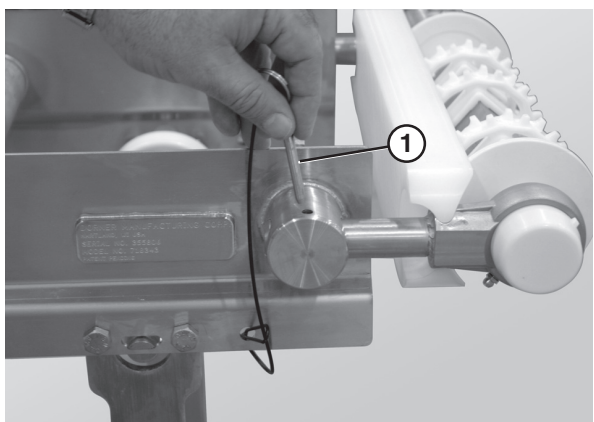

Figure 71
5. Remove the pull pin (**Figure 71, item 1**).
1. Remove the pull pins (**Figure 71, item 1**).